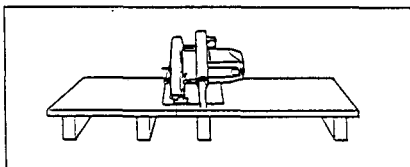

Fig. 1 To avoid kickback, do support board or panel near the cut.
15. Support large panels to minimize the risk of blade pinching and KICKBACK. Large panels tend to sag under their own weight. Supports must be placed under the panel on both sides, near the line of cut and near the edge of the panel as shown in Fig. 1.